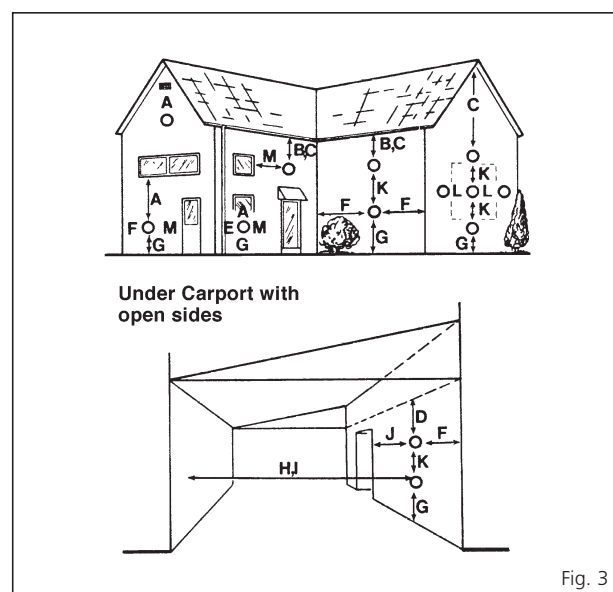

Fig. 3
- the minimum acceptable dimensions from the terminal to obstructions and ventilation openings are specified in fig. 3;